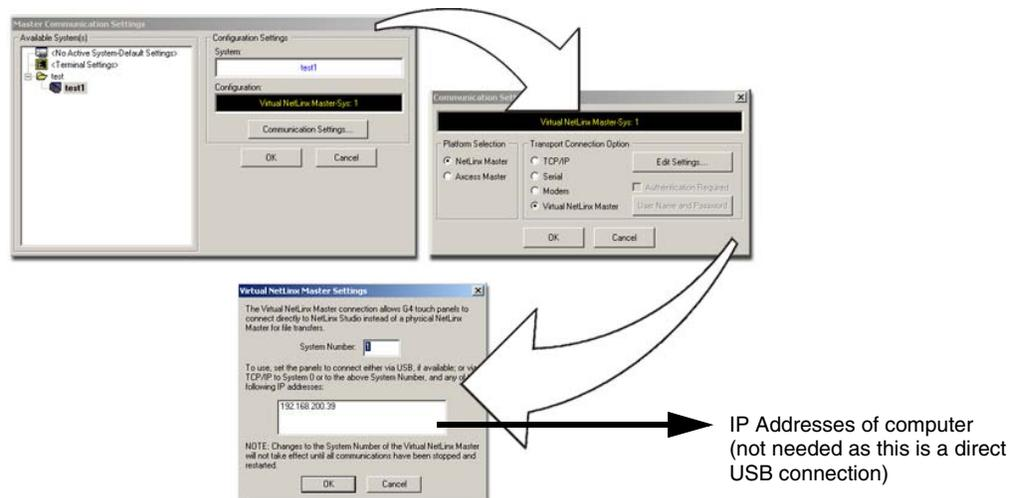

FIG. 54 Assigning Communication Settings for a Virtual Master
3. Select **Settings > Master Communication Settings**, from the Main menu to open the Master Communication Settings dialog (FIG. 54).
7. Click the **Edit Settings** button (*on the Communications Settings dialog*) to open the *Virtual NetLinx Master Settings* dialog (FIG. 54).